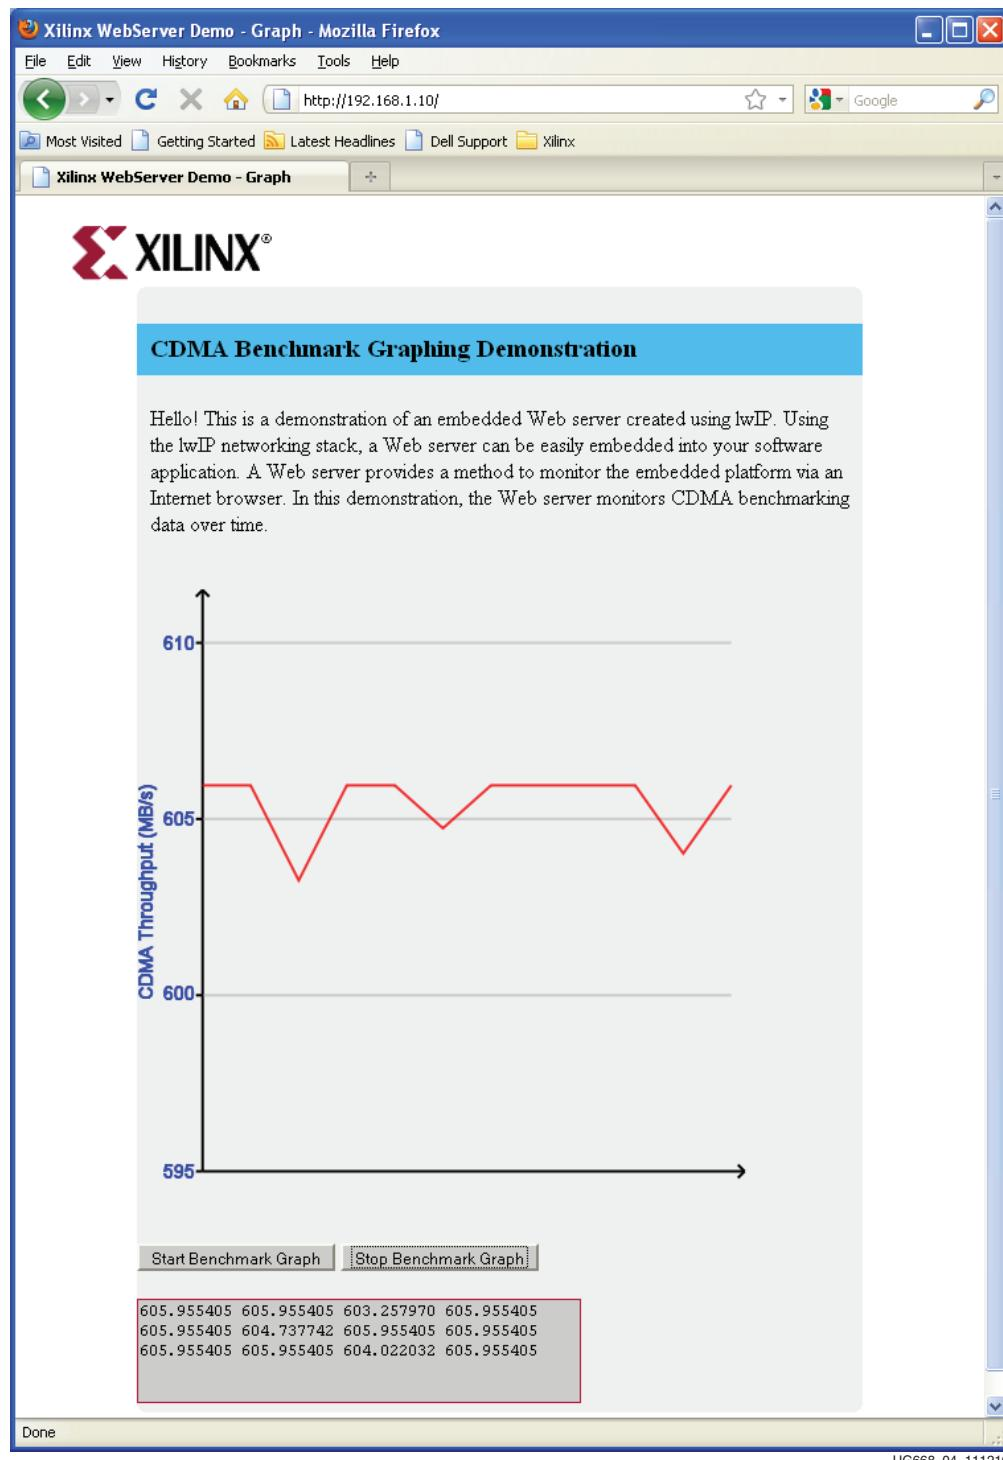

Figure 4: Benchmarking Demonstration Web Page with Data Plotted
3. In the benchmarking demonstration Web page, click **Start Benchmark Graph** to start requesting benchmarking data. Data collected from the Web server appears in the text box below the buttons and the graph begins to show. An example of the page with benchmarking data is shown in Figure 4.